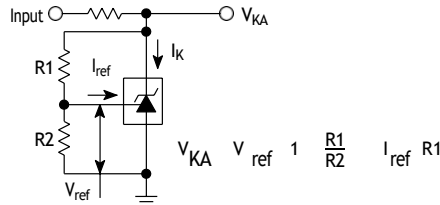

Figure 2. Test Circuit for $V_{KA} > V_{ref}$
- The dynamic impedance Z_{KA} is defined as: $|Z_{KA}| = \frac{V_{KA}}{I_K}$. When the device is programmed with two external resistors, R₁ and R₂, (refer to Figure 2) the total dynamic impedance of the circuit is defined as: $|Z_{KA}| = 1 + \frac{R_1}{R_2}$
6. The dynamic impedance Z_{KA} is defined as $\frac{V_{KA}}{I_K}$. When the device is programmed with two external resistors, R1 and R2, (refer to Figure 2) the total dynamic impedance of the circuit is defined as: $|Z_{KA}| = 1 + \frac{R1}{R2}$